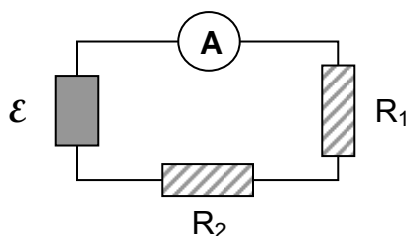
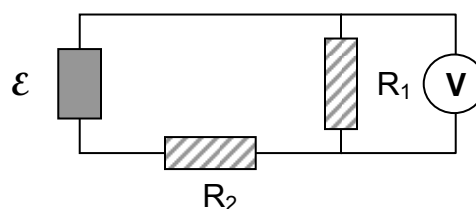

FIGURE 1A
FIGURE 1B
In the series resistive circuit in Figure 1A, the current is being measured by an ammeter placed in series. The ammeter's internal resistance must be much smaller than the resistances  $R_1$  and  $R_2$  in order to insure that the current is not affected by its measurement. In Figure 1B the potential difference across  $R_1$  is being measured by a voltmeter. The voltmeter's internal resistance must be much greater than  $R_1$  in order to prevent a significant amount of current from being diverted into the voltmeter, thereby altering the potential difference.
3. If the ammeter in Figure 1A has a resistance of  $50 \ \Omega$ , what current does it actually read in the circuit?
4. If the voltmeter in Figure 1B has a resistance of  $150 \ \Omega$ , what voltage does it actually read in the circuit?